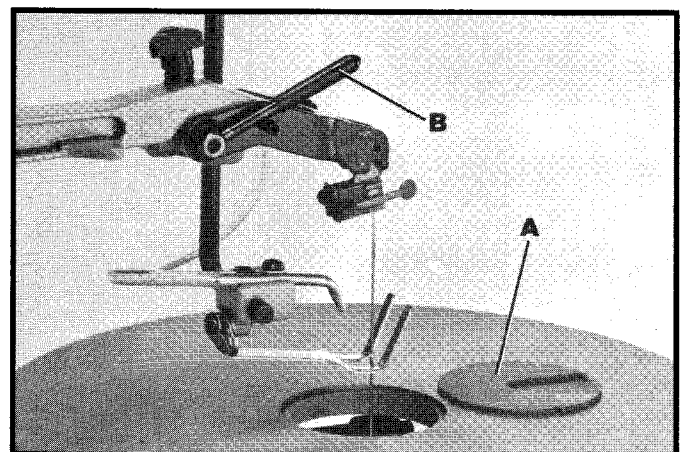

Fig. 23
2. Remove table insert (A) Fig. 23, and release blade tension by pulling tension lever (B) forward, as shown.